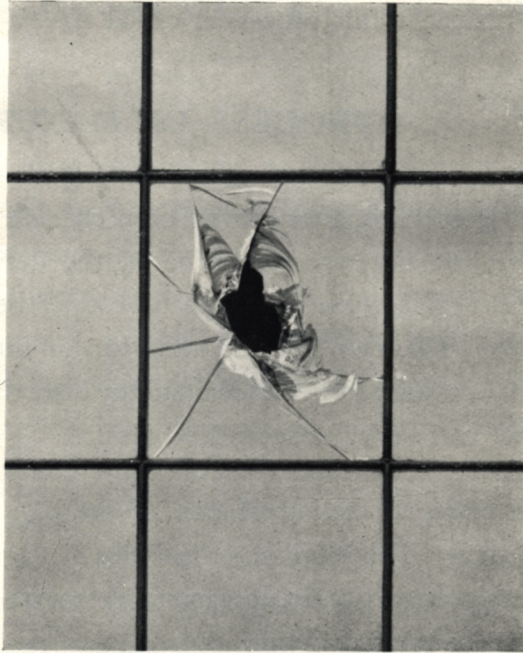

Fig. 4.
This remarkable property is illustrated in the subjoined photograph of an electro-glazed plate (Fig. 4), in which one of the glasses has been smashed with a hammer.
**It cannot be too clearly understood that unless the metal framework will hold securely in position the slivers of glass remaining after a hole has been driven through a section as illustrated in Fig. 4, the glazing will not withstand fire to a degree approaching anywhere near to that demanded by Public Authorities, nor afford more than a trivial fraction of that measure of protection which the user of fire-resisting glazing is led to rely upon.** Architects have thus available a simple and sure means of satisfying themselves as to the Thermal endurance of any specimen of fire-resisting glazing submitted for their approval.